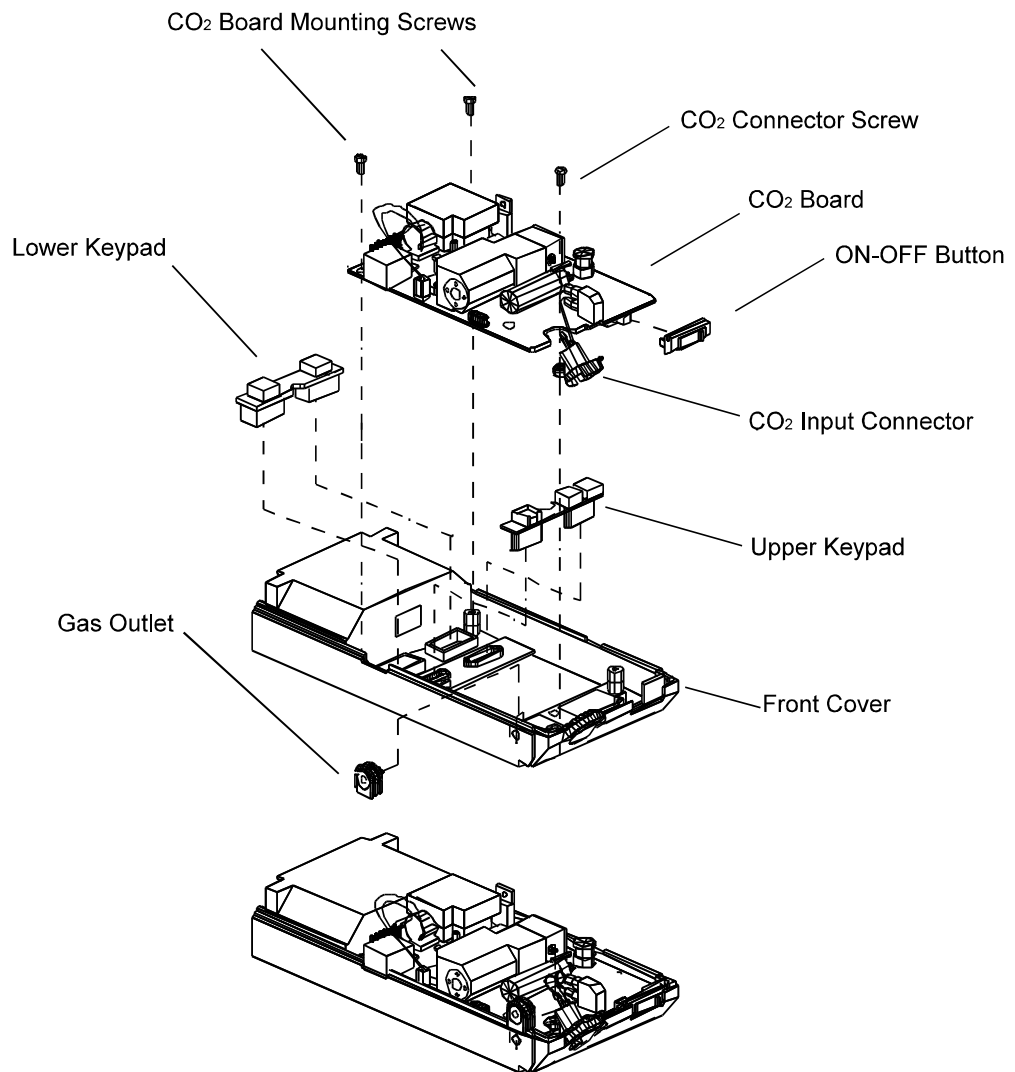

Figure 7-4: Replacing CO₂ Board and Housing Components
7.7.1 ON/OFF Button and Gas Outlet (Figure 7-4)
7.7.2 Keypads (Figure 7-4)
7.7.3 Front Cover (Figure 7-4)